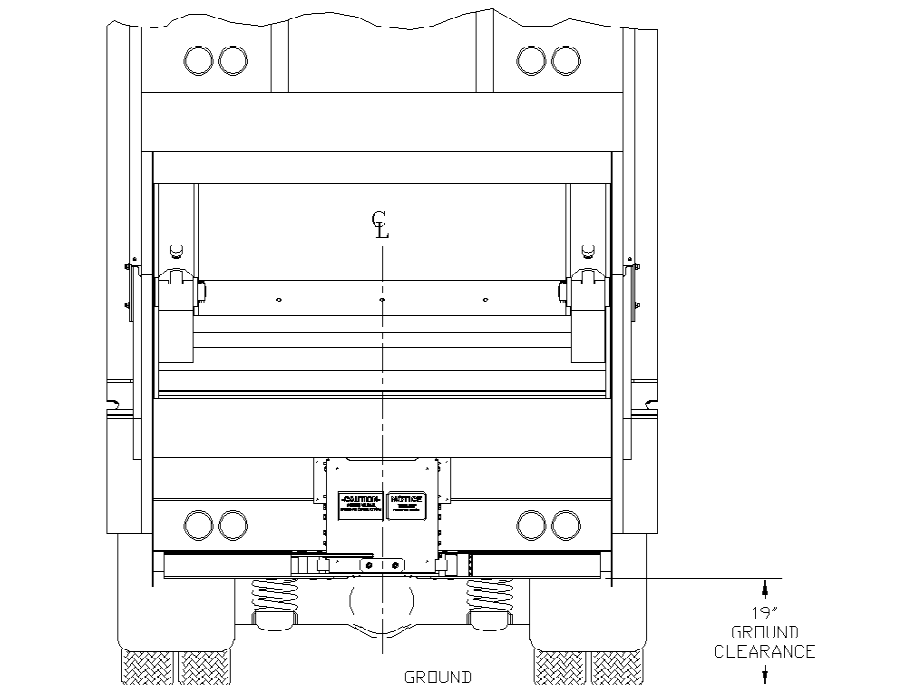

figure I-1
3. Position the lifter on the sill of the truck per figure I-1 and mounting height drawing (*Appendix A*) and tack weld in place. If using an “S” unit for bolt on applications, tack weld the mounting plate in place and attach the lifter to the mounting plate using the 1/2” studs. (*tack weld only at this time so that adjustments can be made if necessary.*).